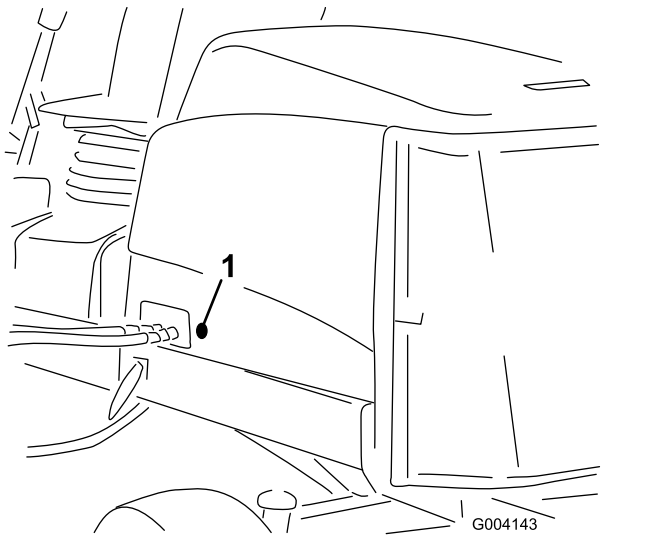

Figure 35
2. Remove the rubber grommet from the hole in the left side of the hood (Figure 35).